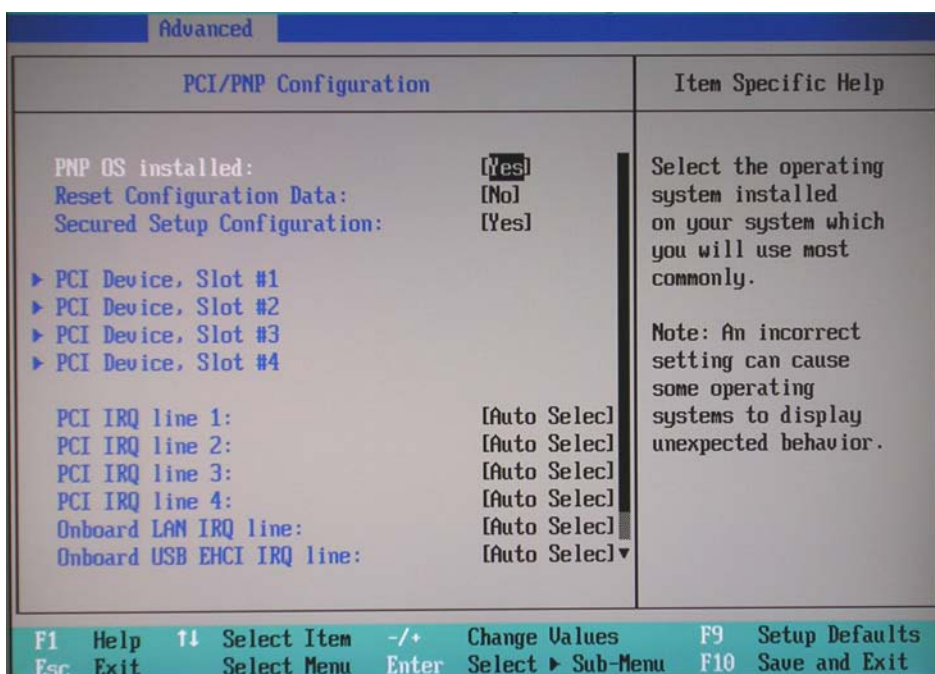

Figure 8-58 BIOS Advanced PCI/PNP Parameters
PCI/PNP Configuration	Figure 8-58 on page 8-70
- 6.) Set the parameters in the **PCI/PNP Configuration** screen as shown above in Figure 8-58.